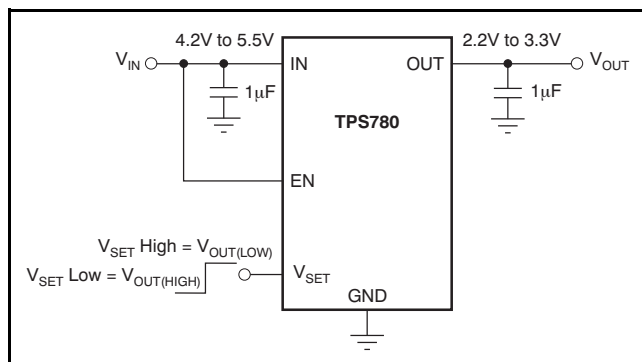
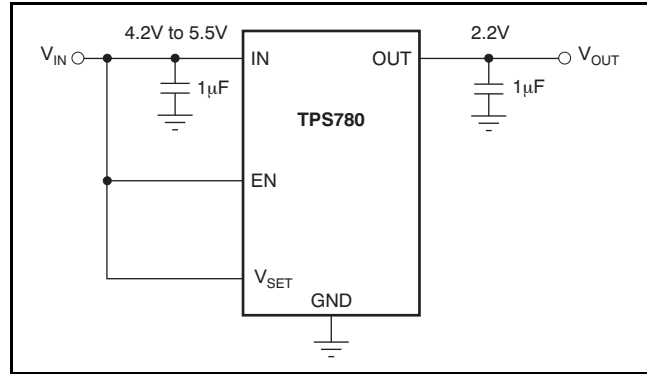

Figure 58. Circuit Showing EN Tied High when Shutdown Capability is Not Required
Figure 59. Circuit to Tie Both EN and VSET High
The enable pin (EN) is active high and is compatible with standard and low-voltage CMOS levels. When shutdown capability is not required, EN should be connected to the IN pin, as shown in Figure 58. Figure 59 shows both EN and VSET connected to IN. The TPS780 series, with internal active output pull-down circuitry, discharges the output to within 5% VOUT with a time (t) shown in Equation 3: